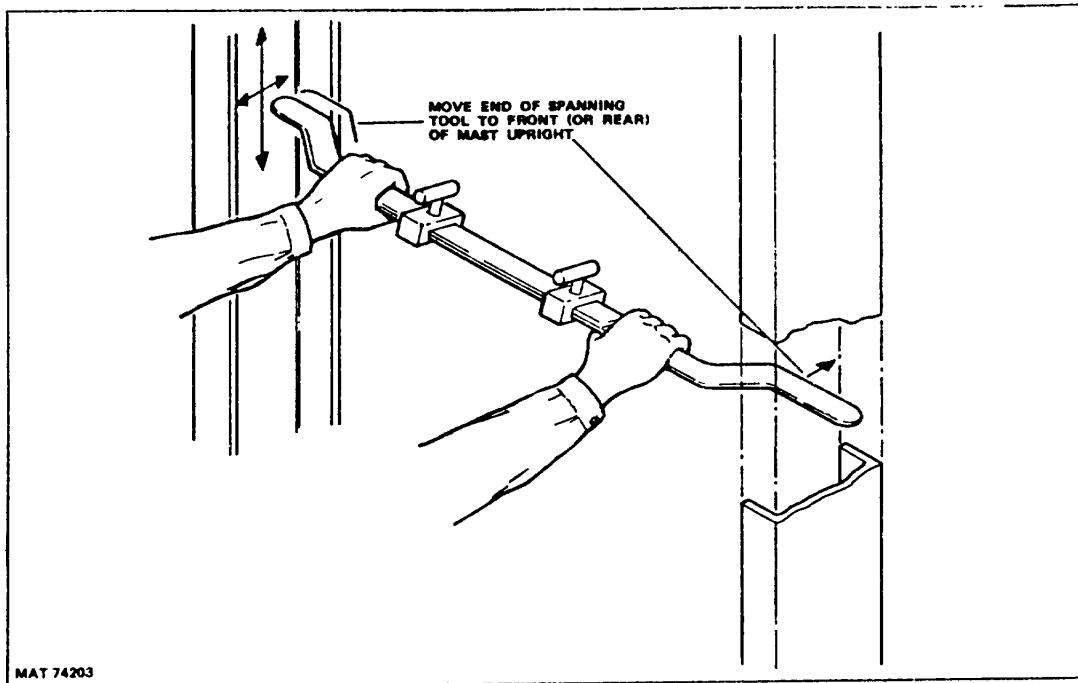
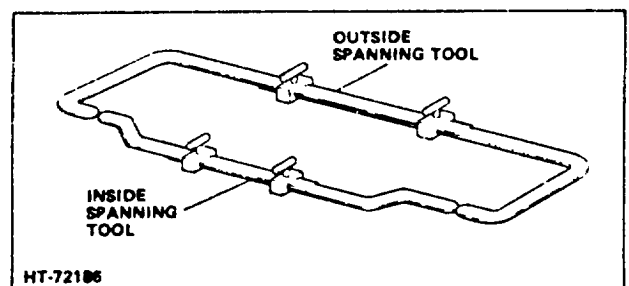

Figure 4. Spanning Outer Mast Uprights
Figure 5. Setting Outside Spanning Tool
- a. Outer Mast Assembly. Use an adjustable inside spanning tool (Figure 4) and check the rear inside of the outer mast upright to find narrowest distance between uprights. Lock tool in this position. Set an adjustable outside spanning tool to match inside spanning tool. Lock tool in this position. (Figure 5)